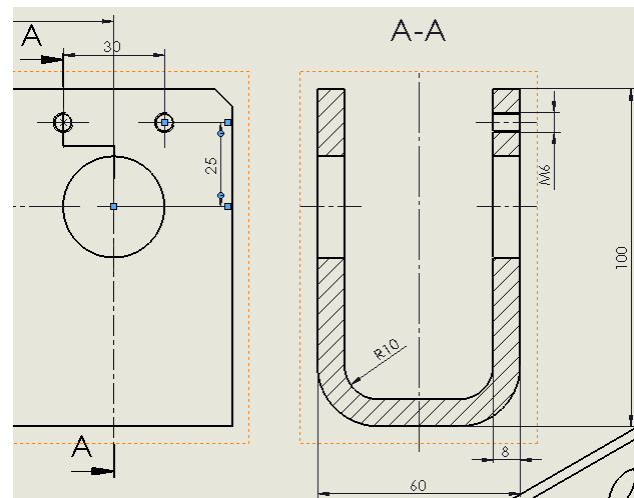

Fig6
- It would be more logical to define the vertical placement of the M6 threaded hole on the main view. This way the dimensions of hole placements would be grouped on the main view. Press *Shift* on the keyboard and drag the 25 mm dimension from the sectional view to the main view (Fig6)! Press *Esc* to deselect the dimension!